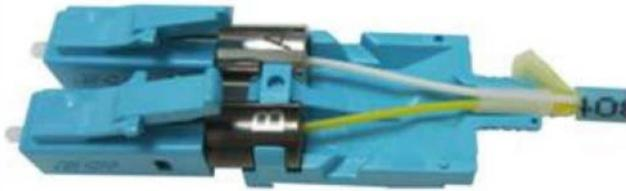

Fig 10
Step 11 Assembly, the LC A/B mark CONN., inserted to the Lower Housing of end.(Fig.10)